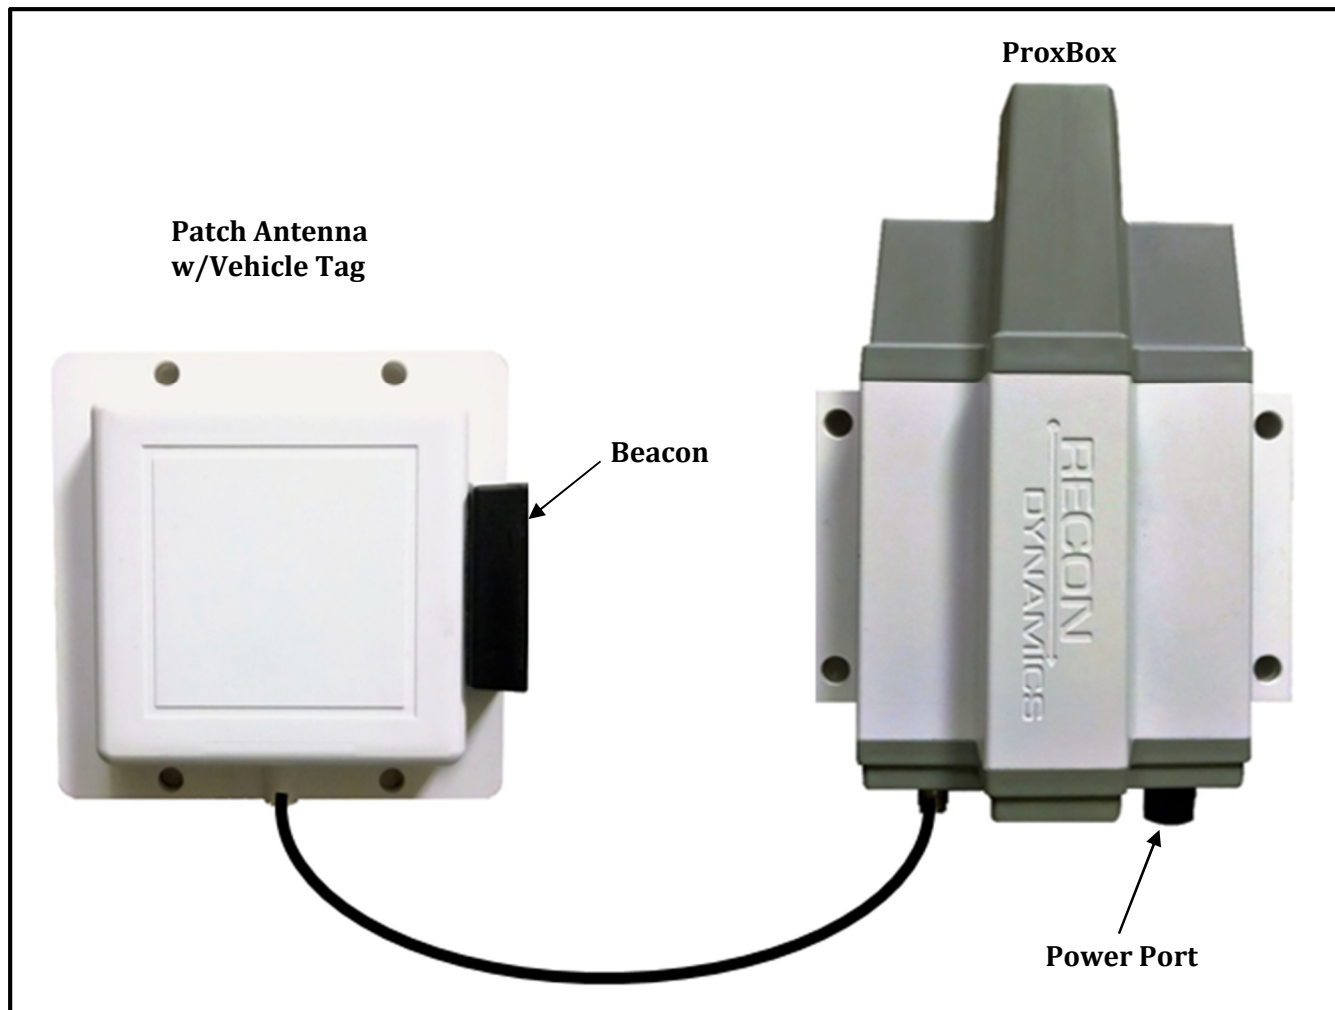

Figure 2
- Connect cable to ProxBox and hand tighten. Refer to Figure 2 for ProxBox port identity.
- Connect the power connector to the ProxBox and hand tighten. Once the power cord is fit over the power connector a final $\frac{1}{4}$ turn is required to secure the power connection. Refer to Figure 2 for ProxBox port identity.